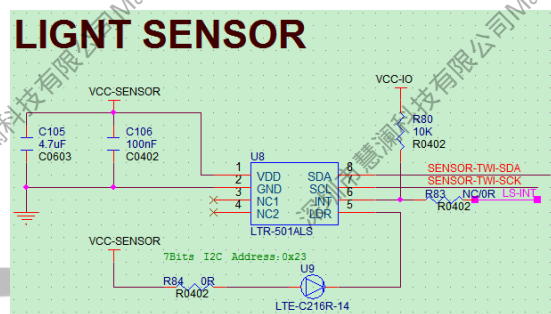

Figure 2-58 The Circuit Design of LIGHT Sensor
- The interrupt signal of the SENSOR is connected to the PH port of R818 by default, if a SENSOR needs to be worked in standby mode, please keep the power supply of the SENSOR working normally in standby mode, and connect the interrupt port to PL port. Such as the circuit design of the LIGHT sensor shown in Figure 2-58.
- Mark the working voltage and the maximum working current of SENSOR power in the schematic diagram to facilitate PCB layout design, as shown in Figure 2-58.